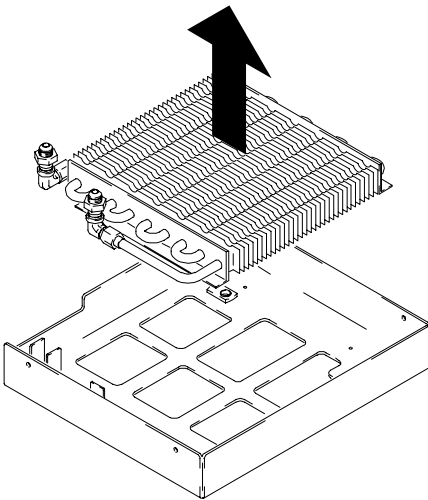

Fig. 21
8. Remove cooler from frame bottom. Fig. 21.